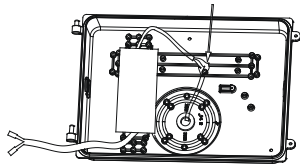

Figure 4
- Make wiring connections per “Electrical Connections” section and make sure the good wire protection.(Figure 4)